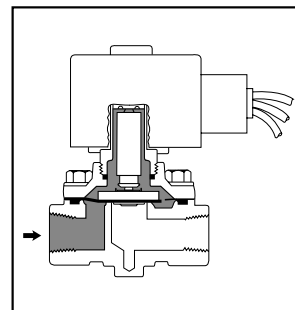

Figure 3A: Pilot Operated, Normally Closed Valve, De-Energized
- Hung-type diaphragm or piston held open mechanically by the solenoid core. The valve opens and remains open with zero pressure drop (Figures 3A, 3B).